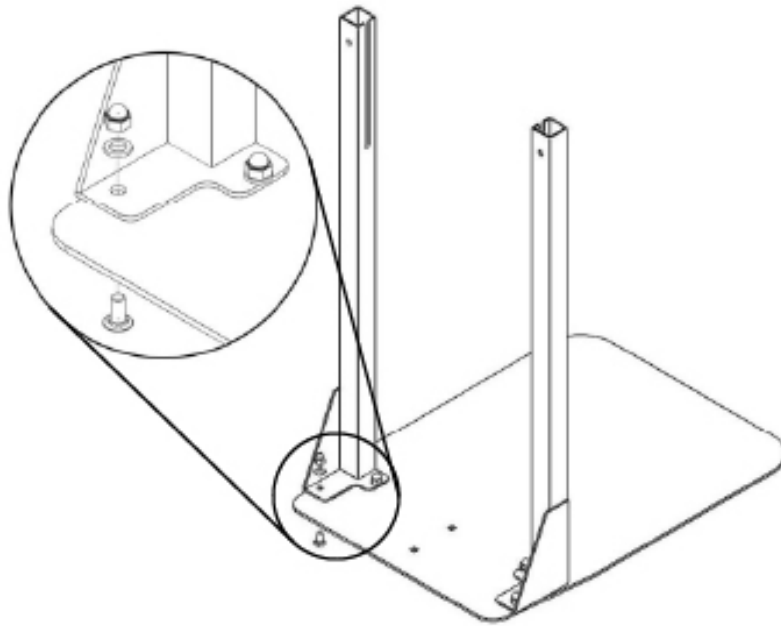

Figure 2
- 2 Attach the ccGG Support Legs to the ccFF Base Plate using the ccA Round Head Bolts, the ccG Washers, and the ccN Round Head Nuts. See Fig 2.